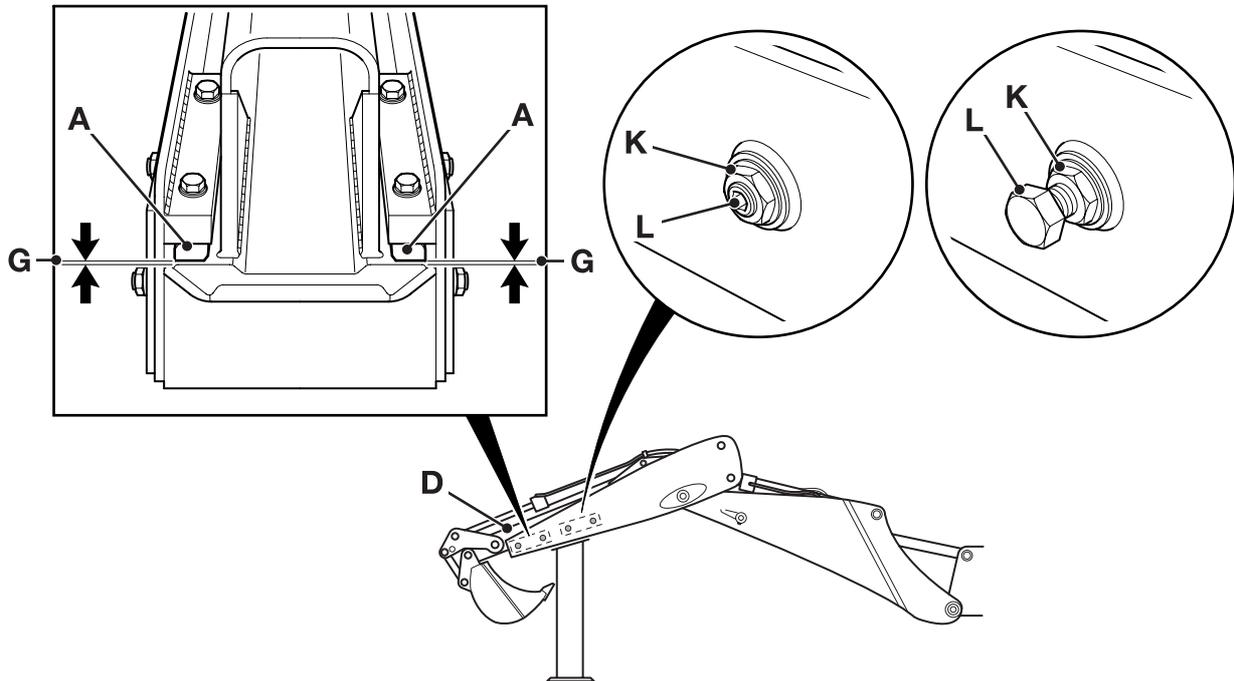

Fig 72.
- 1 Park the machine on level ground. Engage the park brake and put the transmission in neutral. Support the boom and dipper. → Fig 72. (□ 3-79). Stop the engine.